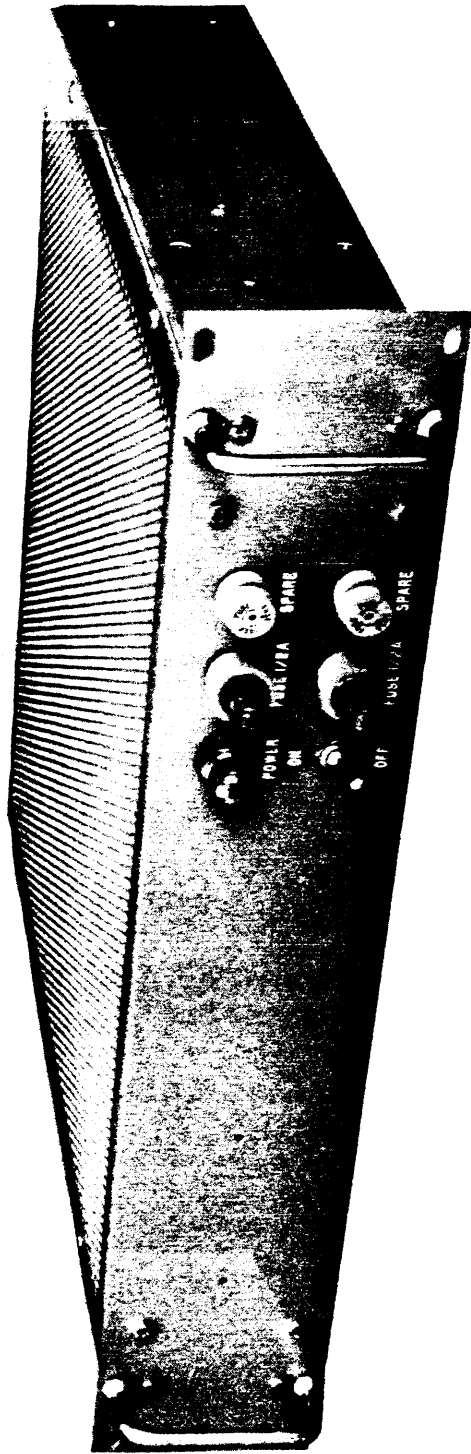

Figure 1-1 Eight Input Multiantenna Coupler Model MAC-2
- (1) The Eight Input Multiantenna Coupler, Model MAC-2 (Figure 1-1) is a broadband coupling unit, used for coupling from one to eight antennas to a single receiver. The coupler will provide a nominal 2db gain from any antenna to the receiver, with a wide dynamic range and low noise characteristic over the frequency range from 250KHz to 32MHz. The equipment has been designed to provide excellent isolation from antenna to antenna and from the receiver to each antenna. The Multi-antenna Coupler is a solid state, transistor-type design.
- (2) The Multiantenna Coupler consists of eight input preamplifiers and a regulated power supply. The eight input preamplifiers are connected to the output amplifier through a signal combining transformer.
- (3) The input and output characteristic impedance is 50 ohms with a VSWR better than 1.5 to 1. From 2MHz to 32MHz and better than 2:1 from 250KHz to 2MHz. Phase correlation of input signals appearing at the output is kept within 2 degrees over the range 250KHz to 32MHz.